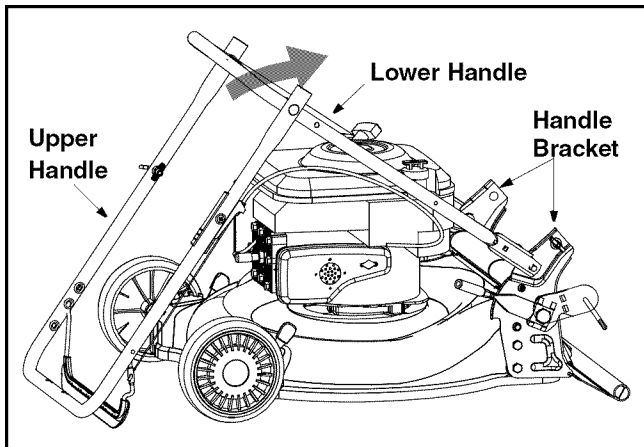

Figure 1
- Lift up and pull back on the upper handle to raise the handle into the operating position. See Figure 1. Make certain the lower handle is seated securely into the handle bracket assemblies.